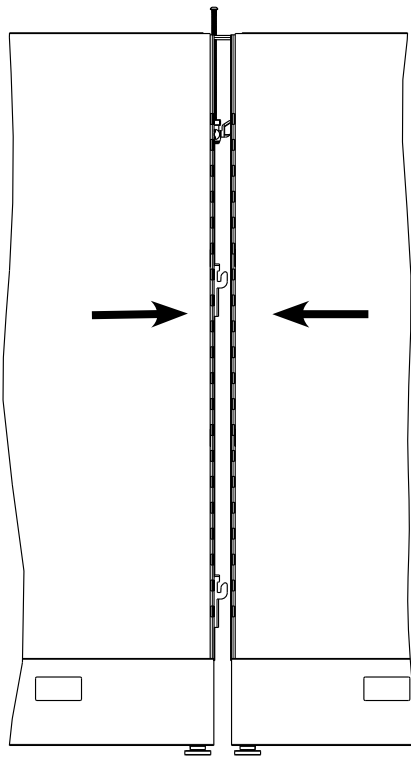

Fig. 3
3. Bring panels together (Fig. 3)
3. Bring post to panel (Fig. 3)
3. Snap Top Caps over Panels and Post Top Cap, centering over Panel (**Fig. 3**)